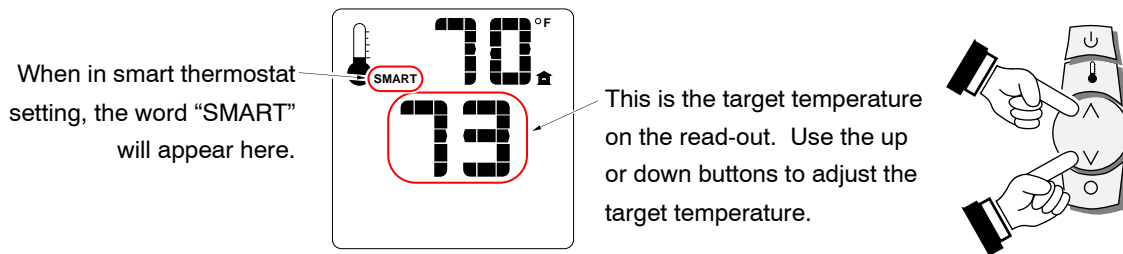

Figure 38
- **STANDARD THERMOSTAT** - While in standard thermostat setting, the transmitter will turn the burner on and off to achieve the target temperature (see Figure 38 below). To adjust the target temperature, press the up and down buttons until a suitable temperature is achieved.